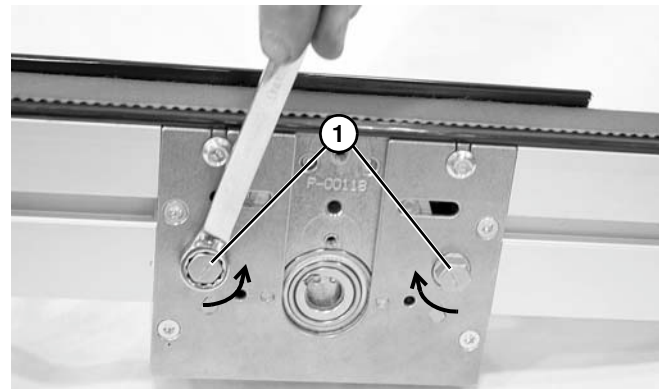

Figure 33
5. Rotate tensioner cams (**Figure 33, item 1**) in the direction indicated to release tension on belt.